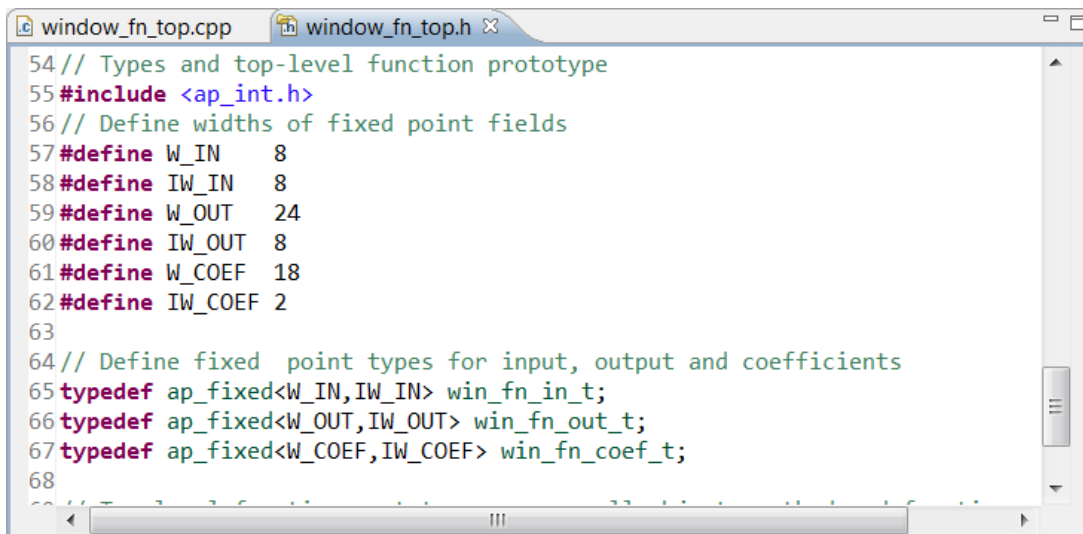

Figure 101: Type Definitions for Arbitrary Precision Lab 2
- Scroll down to view the type definitions (**Figure 101**).